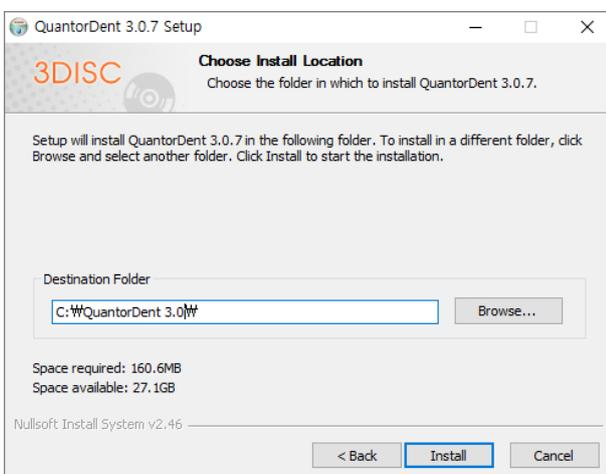

Figure 2.14 Installation Location Dialog Box
8. Choose the destination folder and click the "Install" button as shown in Figure 2.14.